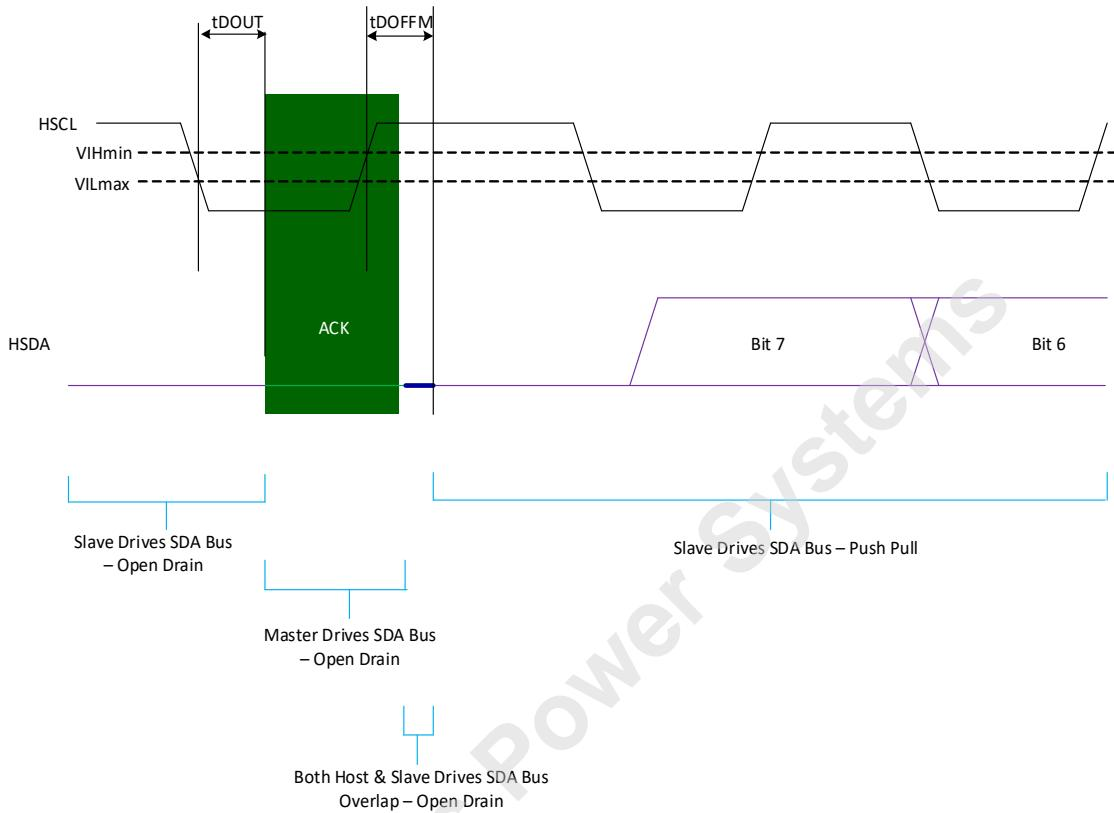

Figure 3 — Master Open Drain (ACK) to Slave Push Pull Hand Off Operation
- See Figure 3 to see how the transition occurs from Host Open Drain (ACK) to Slave Push Pull Operation (1st bit of MDB Byte bit [7]).